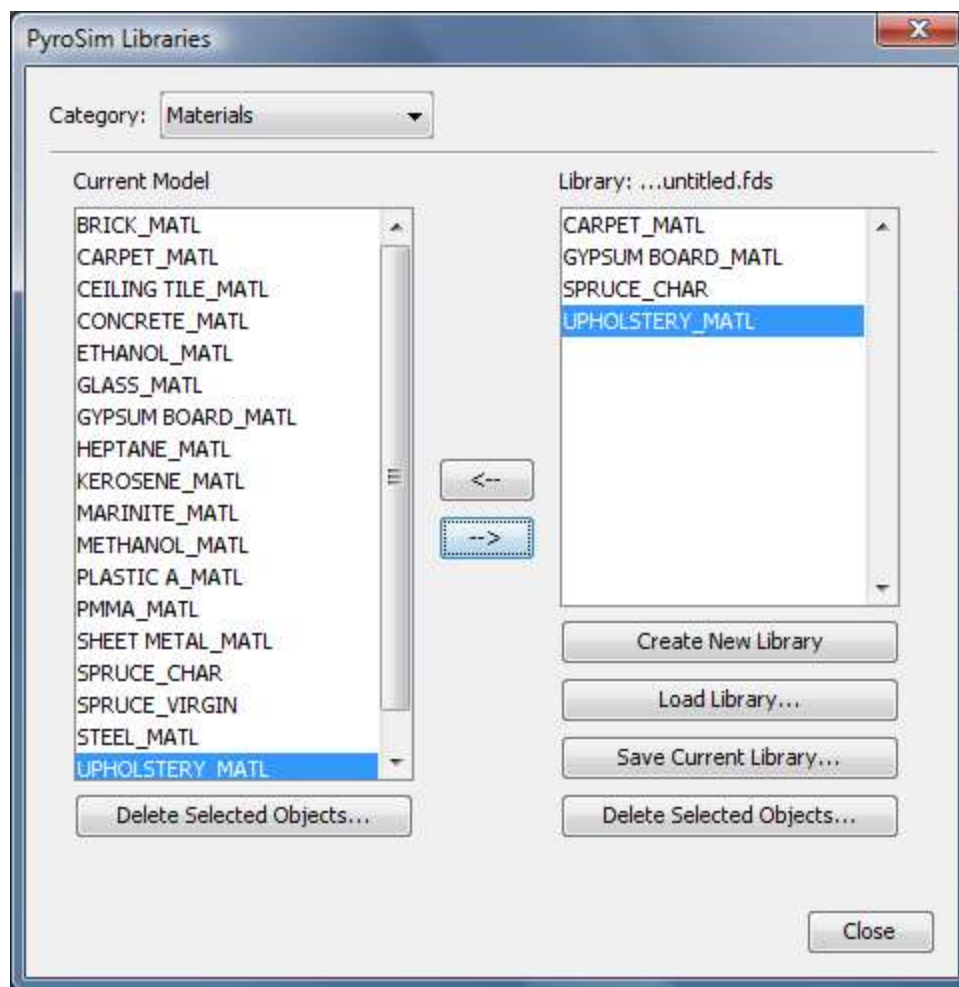

Figure 155. Creating a library of materials
2. Select the **Category** that you want to manage and move selected items from the **Current Model** into the **Library**, Figure 155.